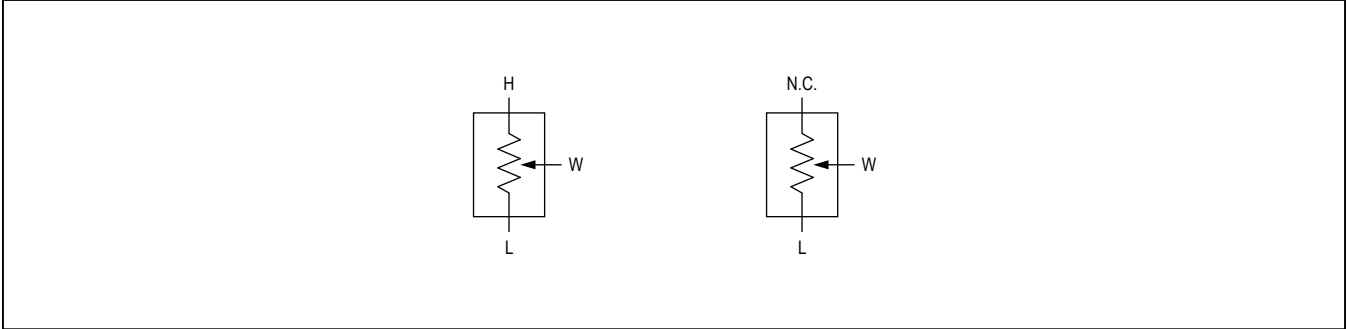

Figure 1. Voltage-Divider and Variable Resistor Configurations
**Note 4:** R-DNL and R-INL are measured with the potentiometer configured as a variable resistor (Figure 1). H is unconnected and  $L = GND$ .